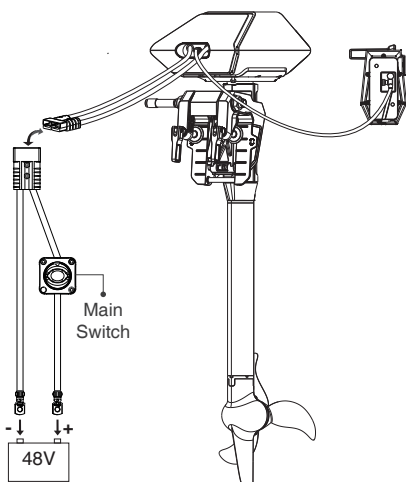

Figure 5-16
Step2: Connect NAVY outboard and Remote Control/Tiller with a communication cable. Please refer to Figure 5-15 or Figure 5-16.